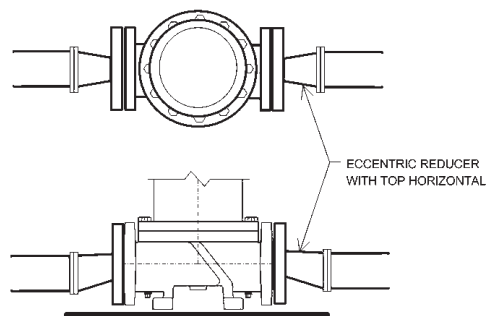

Figure 9: Eccentric Reducer
3. Reducers should be eccentric at the pump suction with sloping side down and horizontal side at the top (Reference Figure 9).